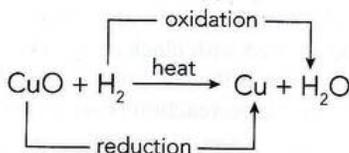

Figure 10.3: Reduction of copper(II) oxide with hydrogen.
During this reaction, the copper(II) oxide is losing oxygen. The copper(II) oxide is undergoing reduction – it is losing oxygen and being reduced (Figure 10.3). The hydrogen is gaining oxygen; hydrogen is being oxidised.